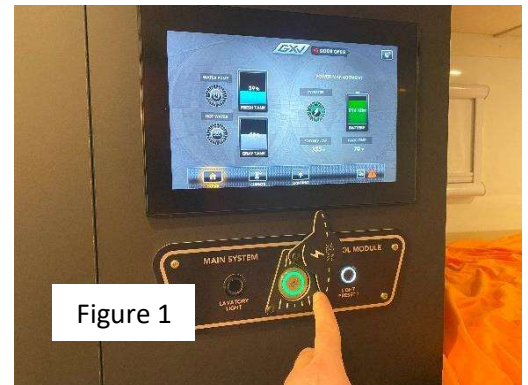

Figure 1
2. Turn off the electrical system in the capsule by holding down the illuminated green button until there is an audible "click". (Figure 1)